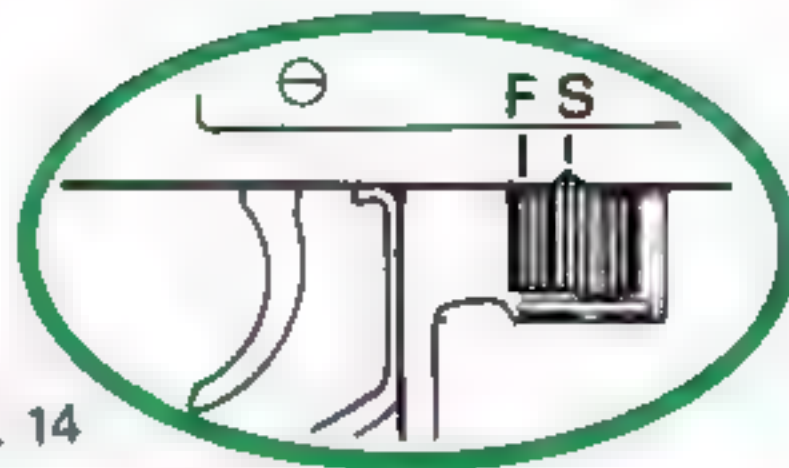

fig. 14
- 6 Move the fire selector to "S" (Safe) (fig. 14)
- 1 Place fire selector on "S" (Safe) (fig 14)